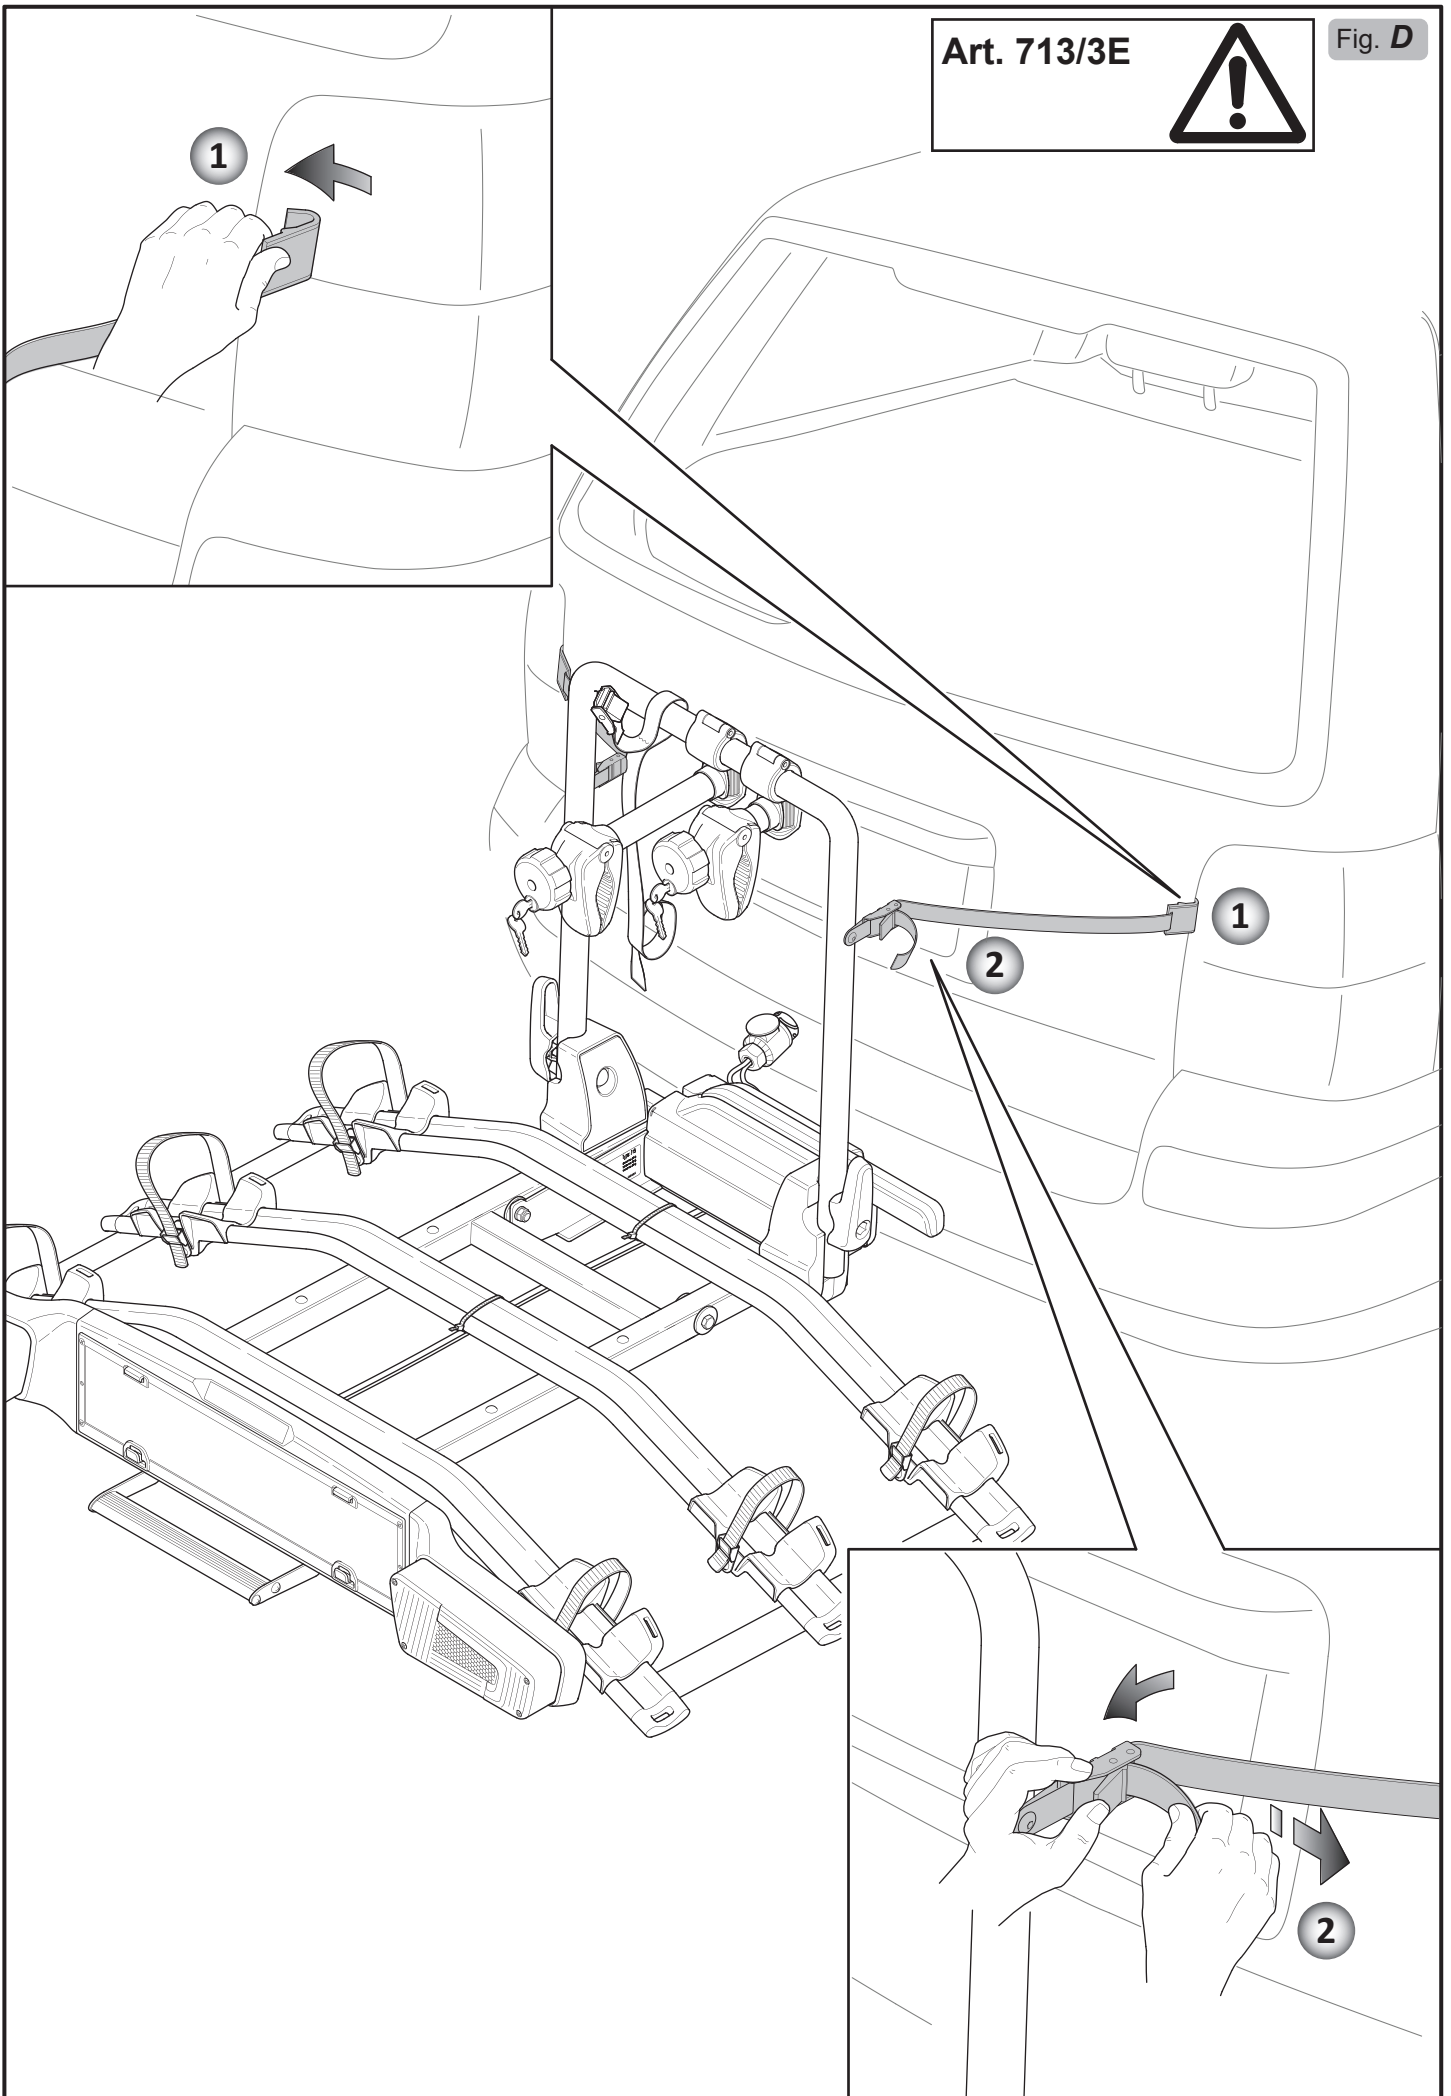

Fig. E2
**IMPORTANT:** For safe transportation of the load the bike carrier is supplied trap for tying es to the fixing arch. Check that the belt is mounted correctly by pulling on it (**4 Fig. E2**).